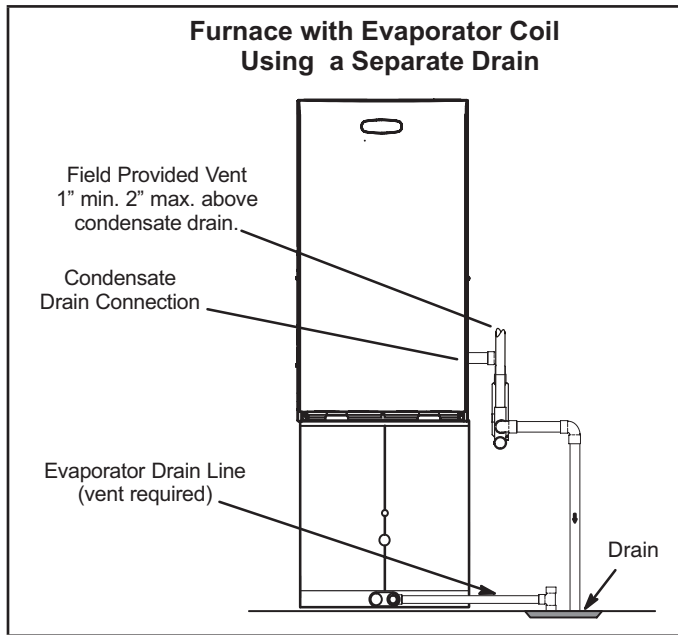
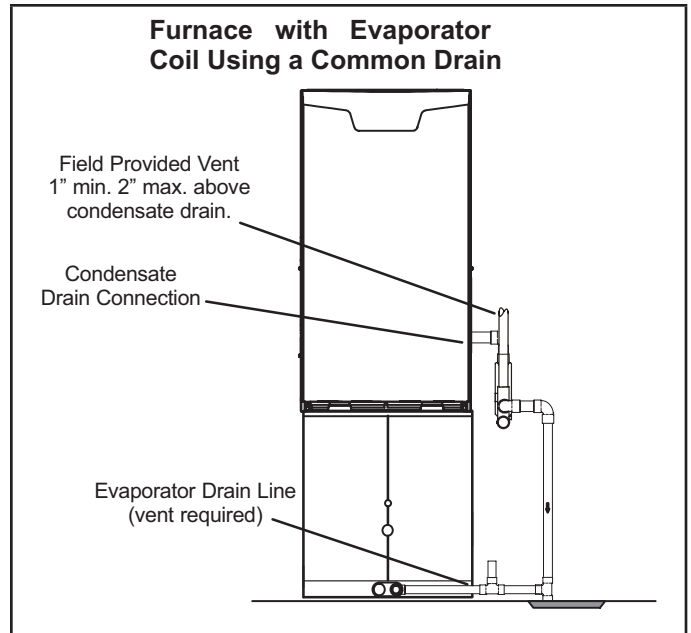

FIGURE 50
FIGURE 51
- 5 - FIGURE 50 shows the furnace and evaporator coil using a separate drain. If necessary, the condensate line from the furnace and evaporator coil can drain together. See FIGURE 51 and FIGURE 52. The field provided vent must be a minimum 1" to a maximum 2" length above the condensate drain outlet connection.